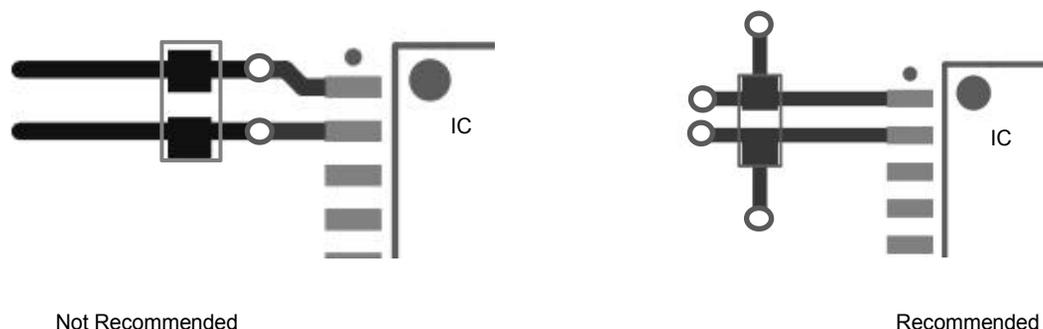

Figure 23-2
3. When it is necessary to place vias in the power supply line and ground wire, the position of the vias should be on the outer side of the capacitor relative to the chip pins, rather than between the capacitor and the chip, as shown in Figure 23-2 to reduce the impact of parasitic inductance in the vias.